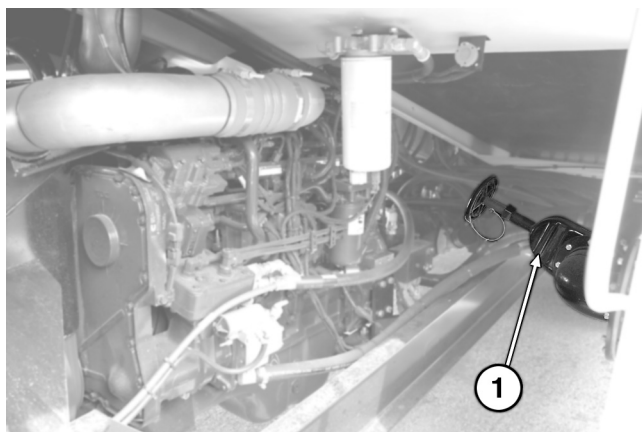

Figure 17. Gate Valve
5. Make sure the gate valve, (Fig 17) in the suction tube is turned fully open (counterclockwise) with sleeve and handle installed. Do not attempt to start the engine with the gate valve closed. This will block the flow to the pumps and cause cavitation.